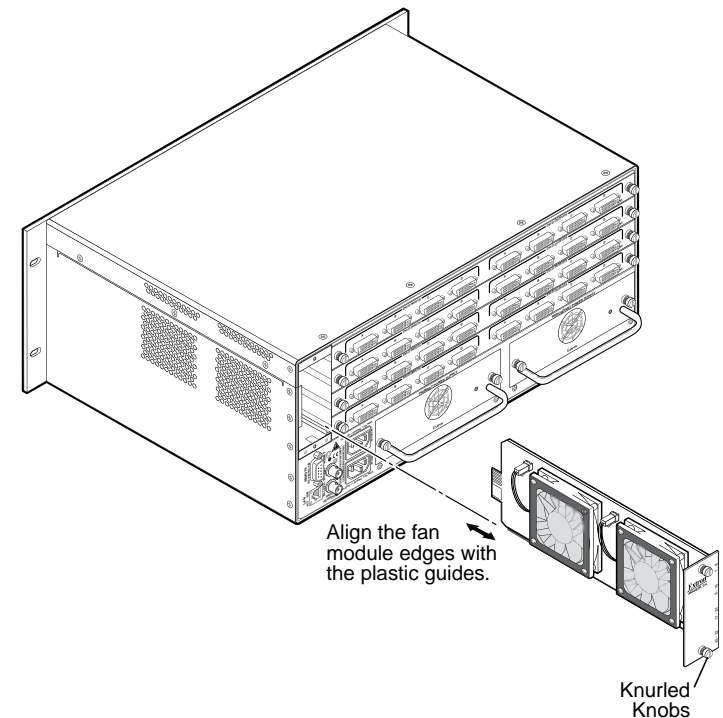

Figure 16. Remove and Install a Fan
2. Rotate the top and bottom knurled knobs to completely loosen the captive screws (see figure 16).